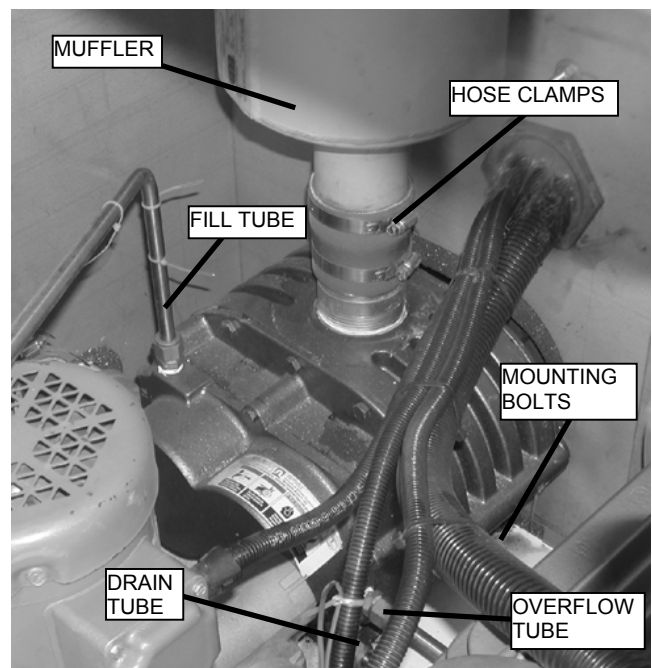

Figure 3. View of Blower In the EDOCS-120.
- f. Loosen the clamps on the hoses at the bottom of the muffler and at the upper side of the muffler (see Figure 3). Remove the muffler.
- g. Drain the oil from the blower. Remove the fill tube, drain tube and overflow tube from the blower gear case housing. Refer to Figure 3.